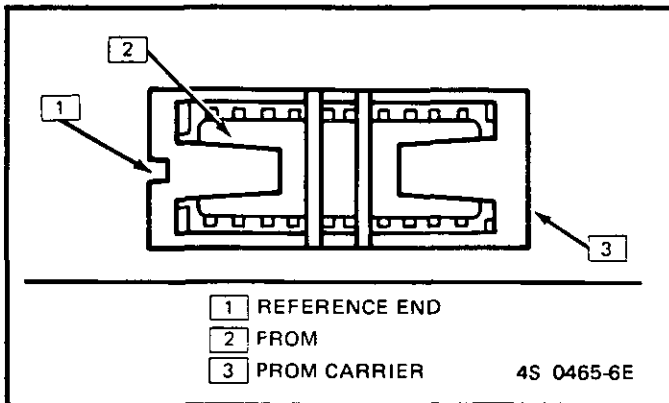

Figure C1-10 - PROM in PROM Carrier
- For correct reference of PROM in carrier, see Figure C1-10.